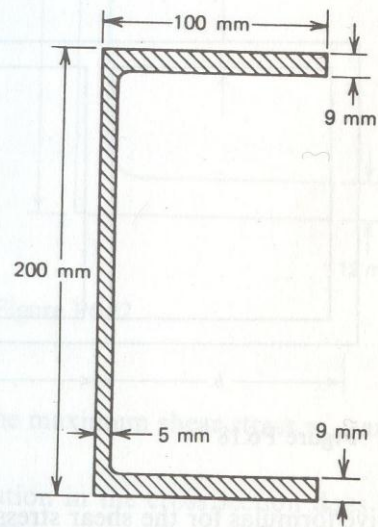

Figure P6.15
- 6.15. Find the maximum shear stress and unit angle of twist of the bar having the cross section shown in Fig. P6.15 when subjected to a torque at its ends of 600 N·m. The bar is made of a steel for which $G = 77.5 \text{ GPa}$.